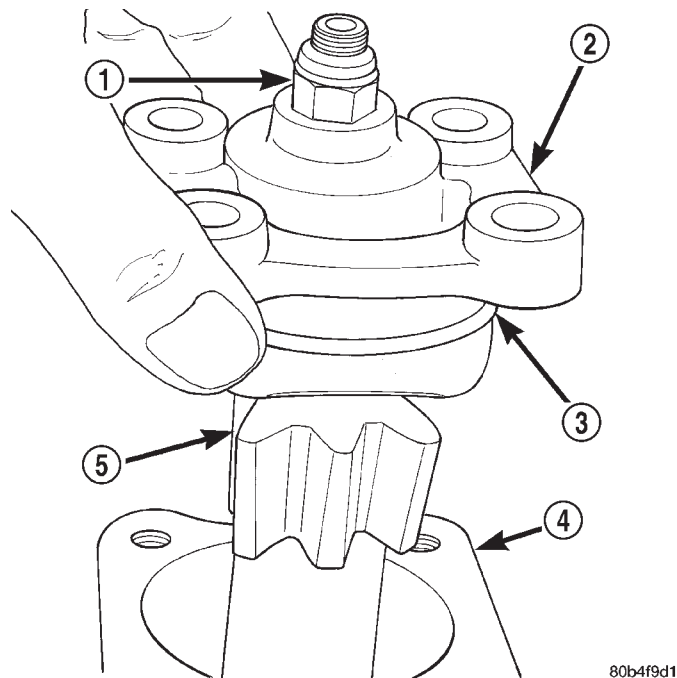

Fig. 17 Cover and Pitman Shaft
(4) Remove pitman shaft cover bolts and remove the shaft assembly (Fig. 17).